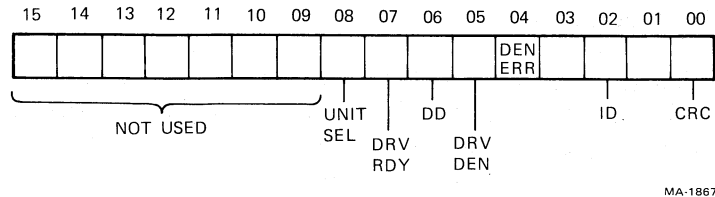

Figure 4-21 RXES Format (RX11, RXV11)
4.2.2.6 RXES – RX Error and Status (Figure 4-21) – This register contains the current error and status conditions of the drive selected by bit 4 (Unit Select) of the RXCS. This read-only register can be addressed only under the protocol of the function in progress (Paragraph 4.2.3). The RXES content is located in the RXDB upon completion of a function.